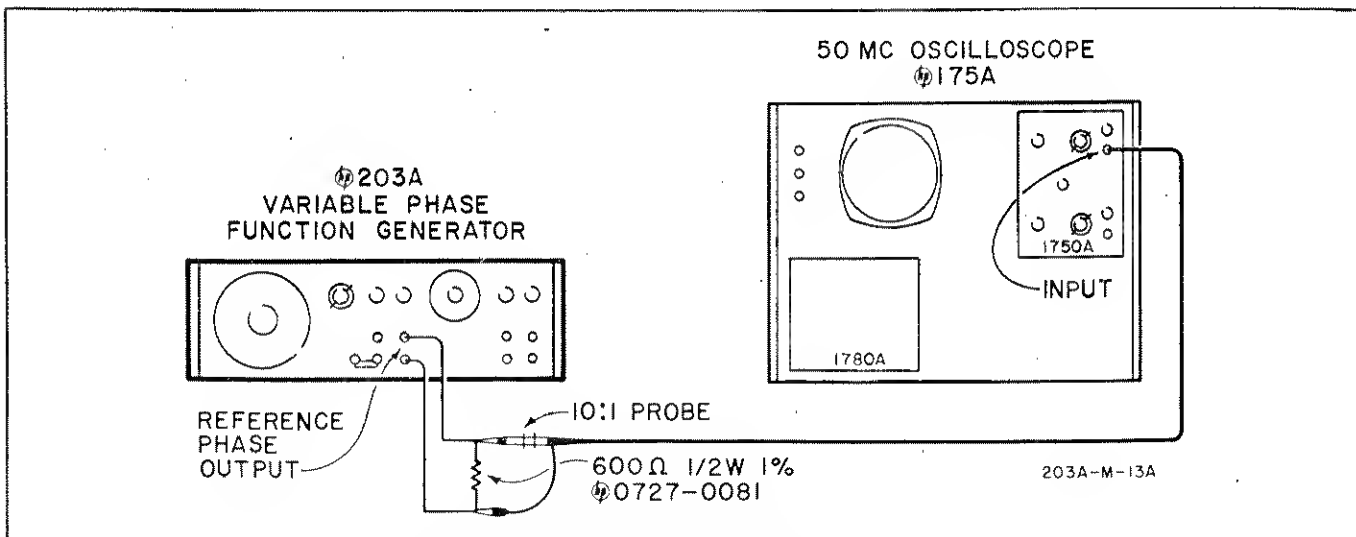

Figure 5-4. Square Wave Check
- a. Connect Model 203A as shown in figure 5-4.